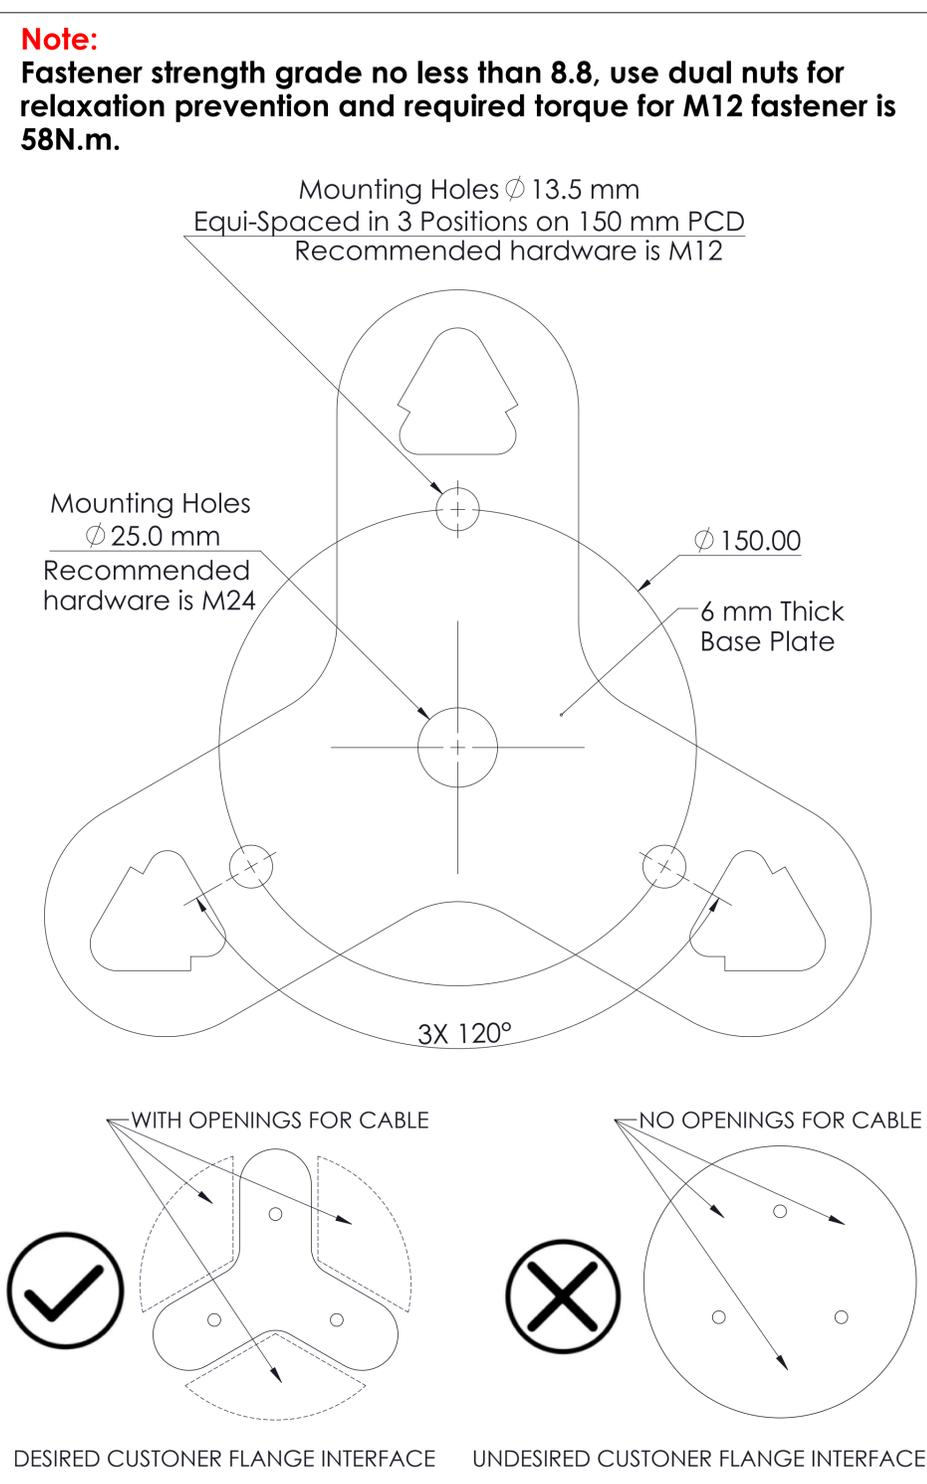

Figure 2. Mounting Holes on Base Plate Viewed From Bottom Side of Antenna
1. Refer to Figures 2, 3 and 4 for mounting and boresite alignment. It is recommended that the mounting holes be marked and made ready in the mounting surface prior to installing the antenna.